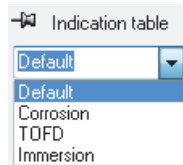

Figure 6-4 Selecting a predefined reading category in the indication table
5. In the **Indication Table** dialog box, select a predefined reading category (Figure 6-4 on page 177) to determine the readings that appear in the table.